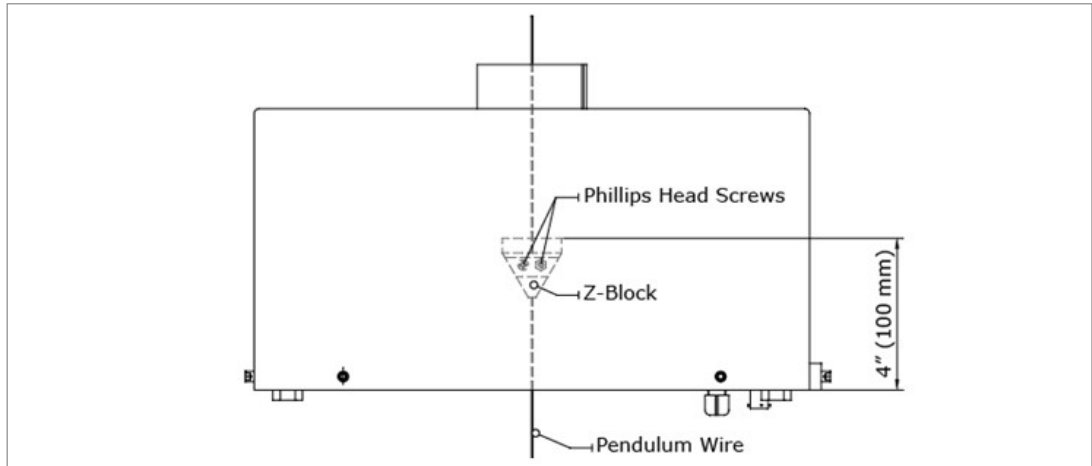

FIGURE 12: 3D Readout, Positioning of the Z-Block
- 3D Readouts:** Position the Z-block on the pendulum wire at a height of approximately 100 mm (4") above the pendulum table. Using a Phillips head screwdriver, tighten the two screws in the Z-block so that it clamps onto the pendulum wire. Figure 12 shows the positioning of the Z-block. With the readout above the Z-block, slide the wire through the slot in the readout.